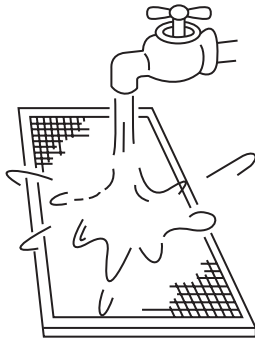

fig.9-4
- The air-in side should face down when using water. (See *fig.9-4*)